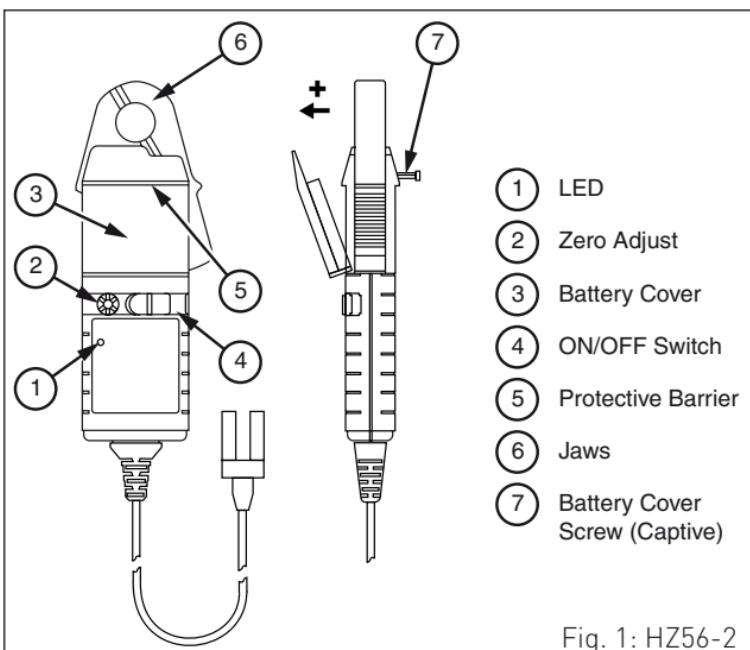

Fig. 1: HZ56-2
To avoid injury, when using the probe ensure that your fingers are behind the protective barrier as shown in Figure 1. Do not use the probe if any part of the probe, including the lead and connector(s), appear to be damaged or if a malfunction of the instrument is suspected.
The red LED will flash when the minimum operating voltage is approached. Refer to Fig.1. Use the following procedure:
2. Loosen the captive screw that secures the battery cover. Lift the cover through 30° and pull it clear of the probe body as shown in Fig 1. The battery is then accessible. Replace the battery and re-fit the battery cover and fasten the screw.